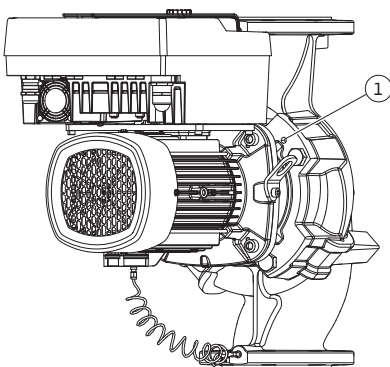

Fig. 14: Pushing off the motor impeller unit via threaded holes (depending on pump type)
5. Detach the motor impeller unit (see Fig. 5) from the pump housing. Depending on the pump type (see Fig. I to III), there are different ways to do this. For the Fig. I pump type, loosen the screws (Item 29). Push the motor impeller unit off the pump housing. For Fig. II and Fig. III pump types, use the two threaded holes (Fig. 14, Item 1). Use suitable screws provided on-site (e.g. M10 x 25 mm) for this.
5. Press the motor impeller unit (see Fig. 5) off the pump housing. Use the two threaded holes for this (see Fig. 14). Screw M10 screws with a suitable length into the threaded holes to loosen the seat.